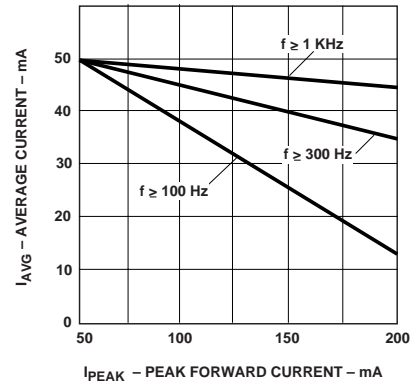

Figure 5. Maximum average current vs. peak forward current.
2. Any pulsed operation cannot exceed the Absolute Max Peak Forward Current or the Max Allowable Time Average Power as specified in Figure 5.